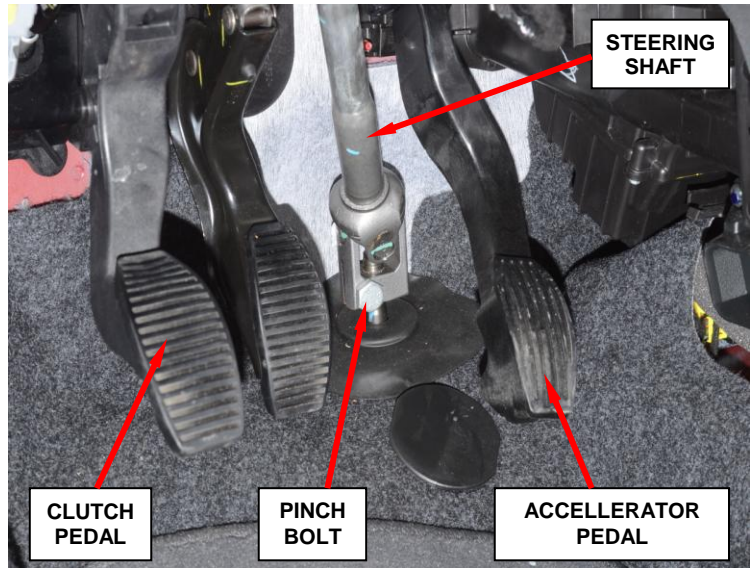

Figure 3 – Steering Shaft Pinch Bolt
- c. Disconnect the steering shaft at the floor (Figure 3).